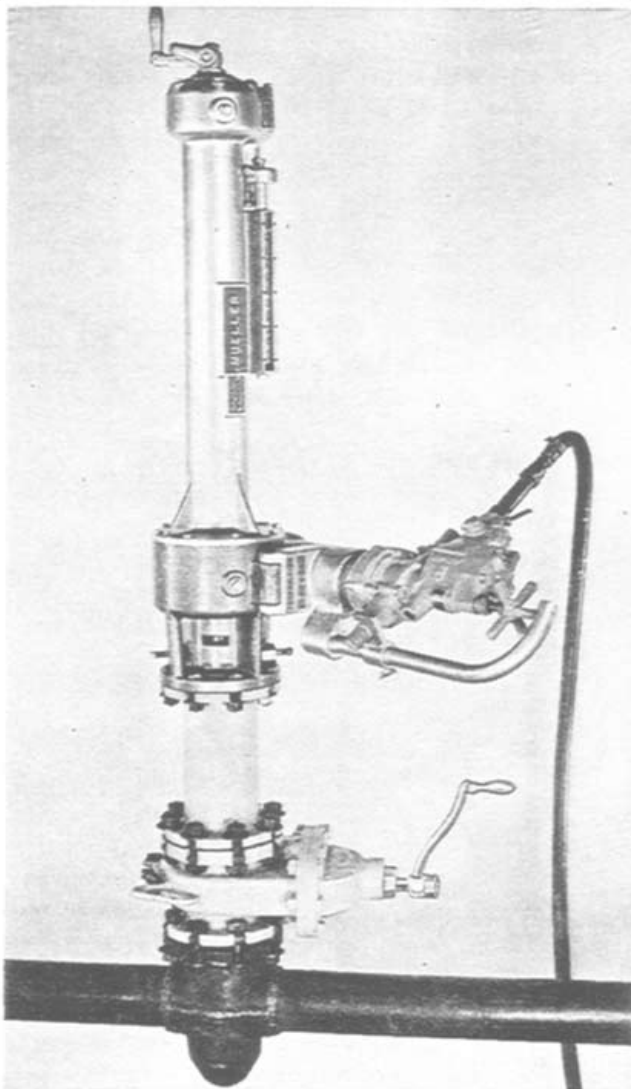

FIGURE 13
7. Place the machine and adapter in drilling position on gate valve and bolt securely to the gate valve. **Figure 13.** Check to be sure gasket is in good condition and in place.